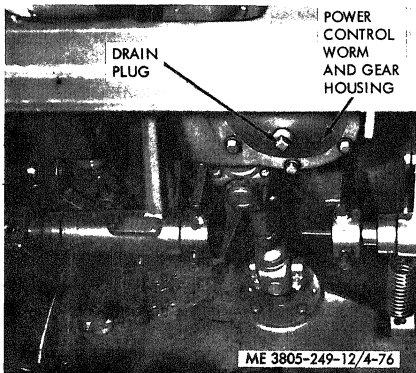

Figure 4-76. Power control worm and gear.
a. Remove the drain plug (fig. 4-76) below the operator's compartment and allow the oil to drain. Clean and install the plug.